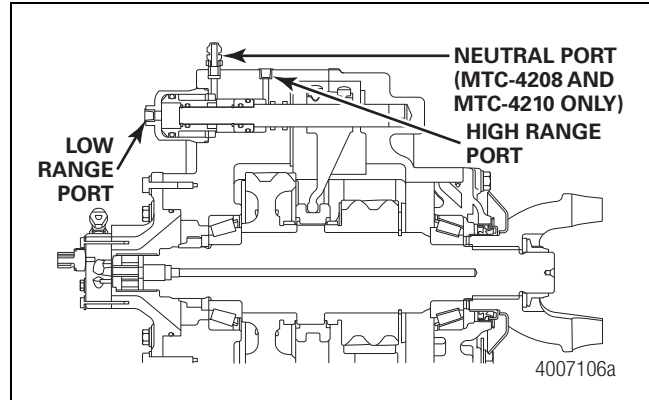

Figure 4.15
2. Disconnect the air lines used to shift in the previous steps. Figure 4.15.